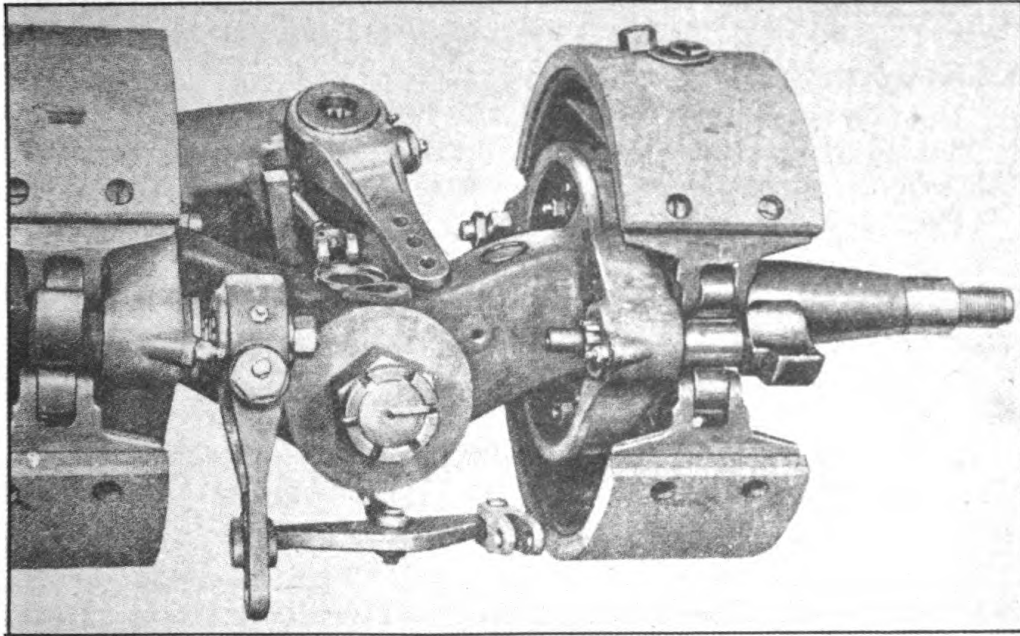

FIGURE 22. REMOVING CAM—STEP THREE
(5) Pull cam out, and remove felt snap ring and felt retainer (Figure 22).
(6) To replace cam, pack needle bearings with a medium light chassis grease, working grease into bearings with finger. Hold the brake shoes apart and insert cam in position. Care should be taken not to harm the needle bearings in the mounting plate brake adapter. Reverse the procedure outlined above.